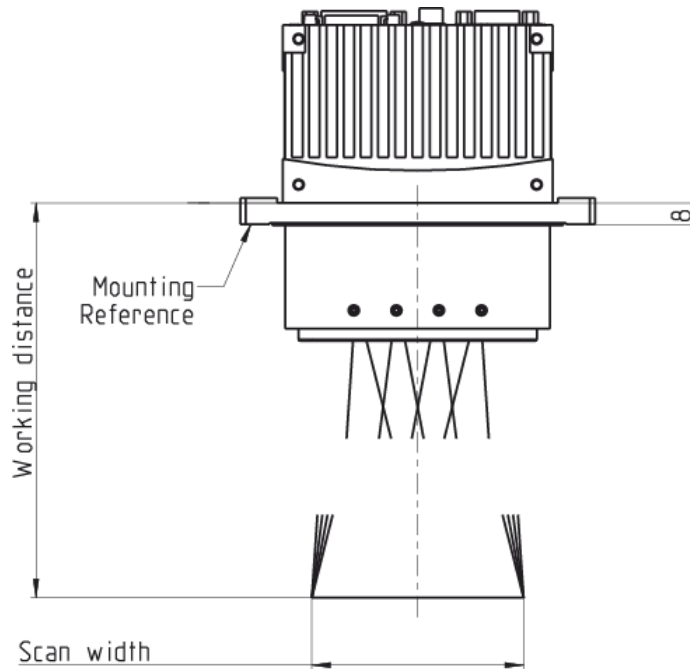

Figure 4: Working distances for the truePIXA
- The widths mentioned above and in Figure 4 denote the field of view required for real image area.